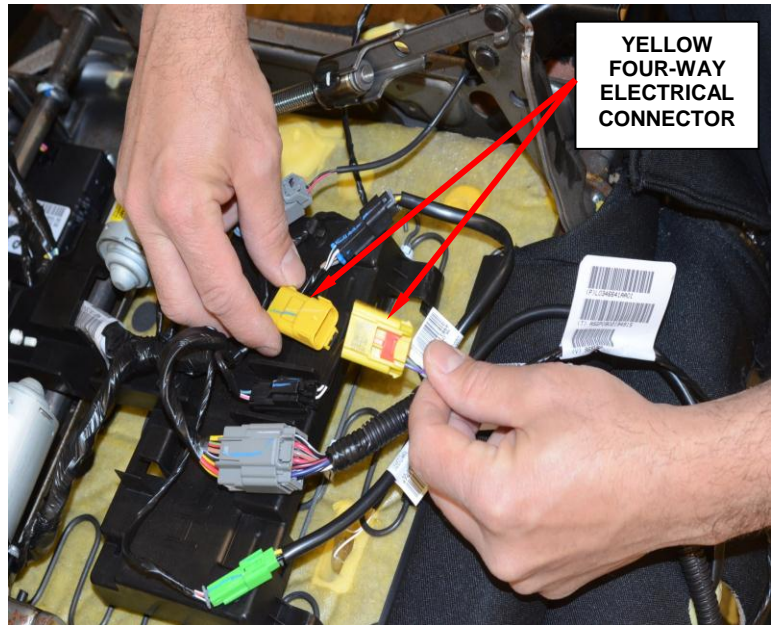

Figure 4 – Disconnect Yellow Four-Way Electrical Connector
6. Disconnect the yellow four-way electrical connector from the seat cushion wiring harness (Figure 4).